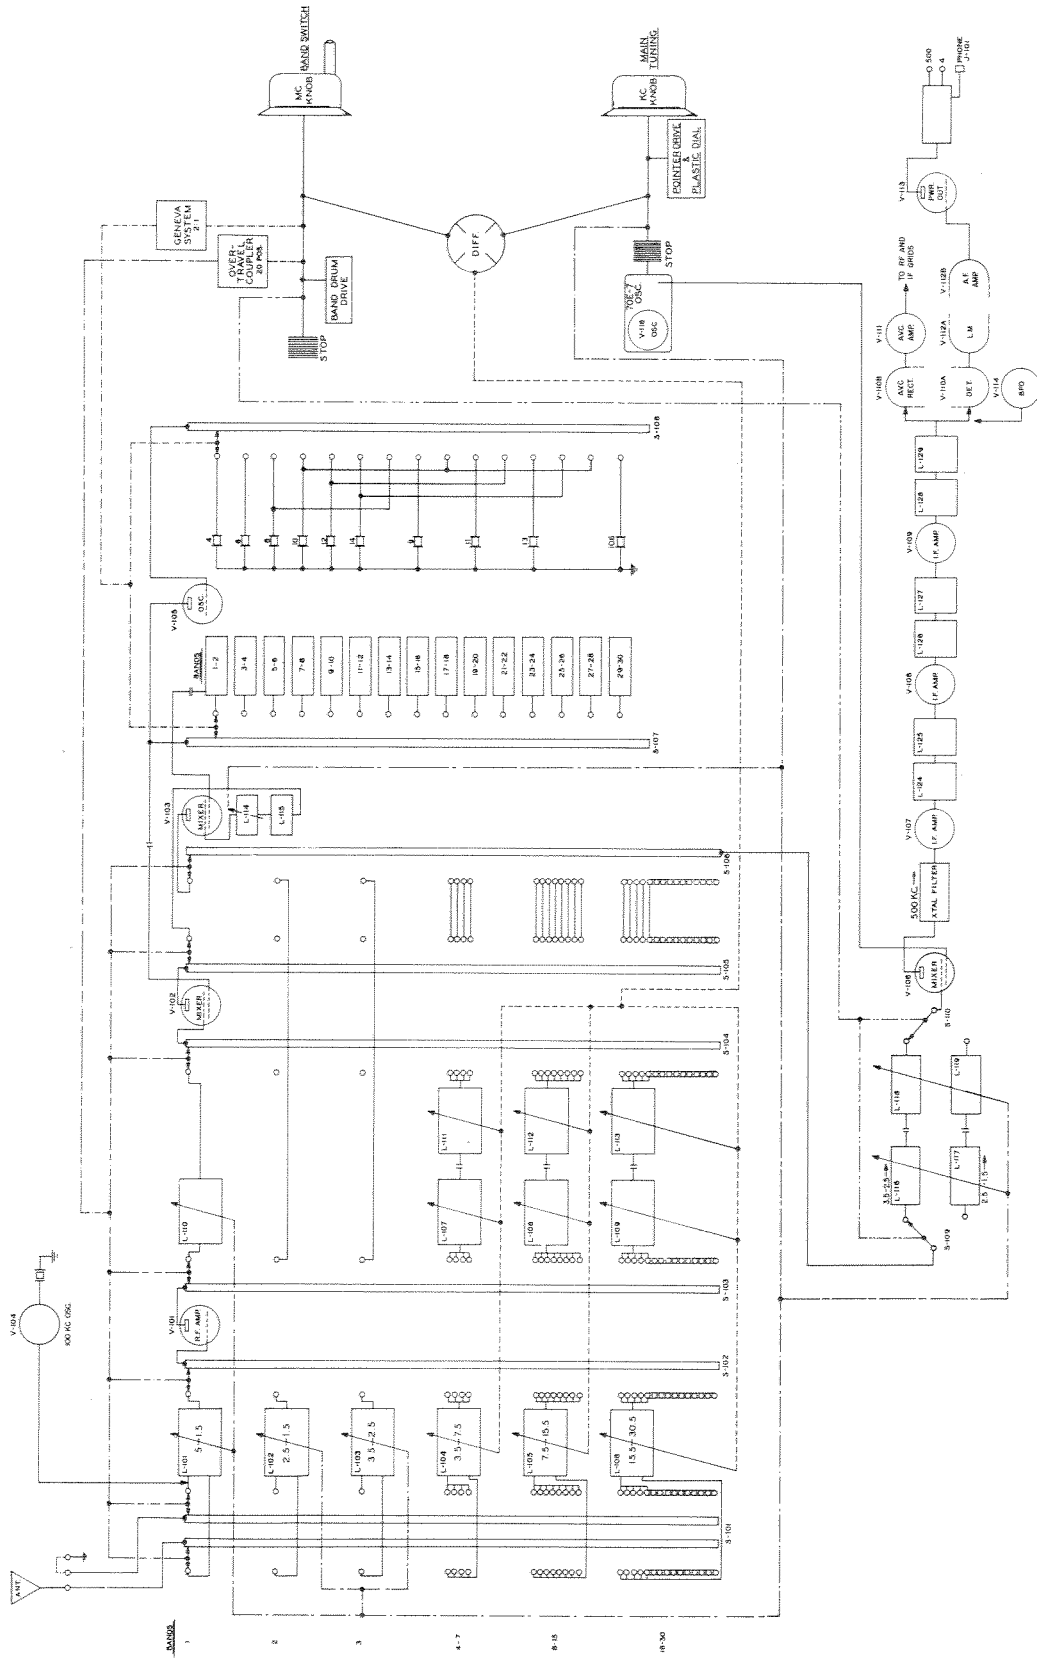

Figure 4-1 Band Change and Tuning System, Block Diagram
4.1.1. BAND CHANGE. - The 51J Receiver covers the radio frequency spectrum 0.5 to 30.5 mc in 30 bands: 0.5 to 1.5, 1.5 to 2.5, 2.5 to 3.5 mc and so on up to 30.5 mc — each band being one megacycle wide. The circuits affected in changing bands are the r-f amplifier grid, first mixer grid, second mixer grid, third mixer grid, crystal selection, and crystal harmonic tuning circuits. The third mixer is switched in only on band 1 (.5 to 1.5 mc). See figure 4-1.
4.2.2. RADIO FREQUENCY AMPLIFICATION. - Refer to the block diagram, figure 4-1. one stage of radio frequency amplification is (V-101) used on all bands. A type 6AK5 miniature r-f pentode is employed in this stage for its low noise and good sensitivity characteristics at high frequencies. The antenna is transformer coupled to the grid of the r-f stage on all bands with a resulting antenna termination impedance of 300 ohms. The r-f coils for bands 1, 2, and 3 are mounted in the variable i-f group and are tuned by slugs mounted on the variable i-f slug table which is at the extreme right hand edge of the receiver as viewed from the front. The coils for bands 4 to 30 are clustered at the rear of the chassis and are tuned by slugs mounted on the three r-f mixer slug tables.